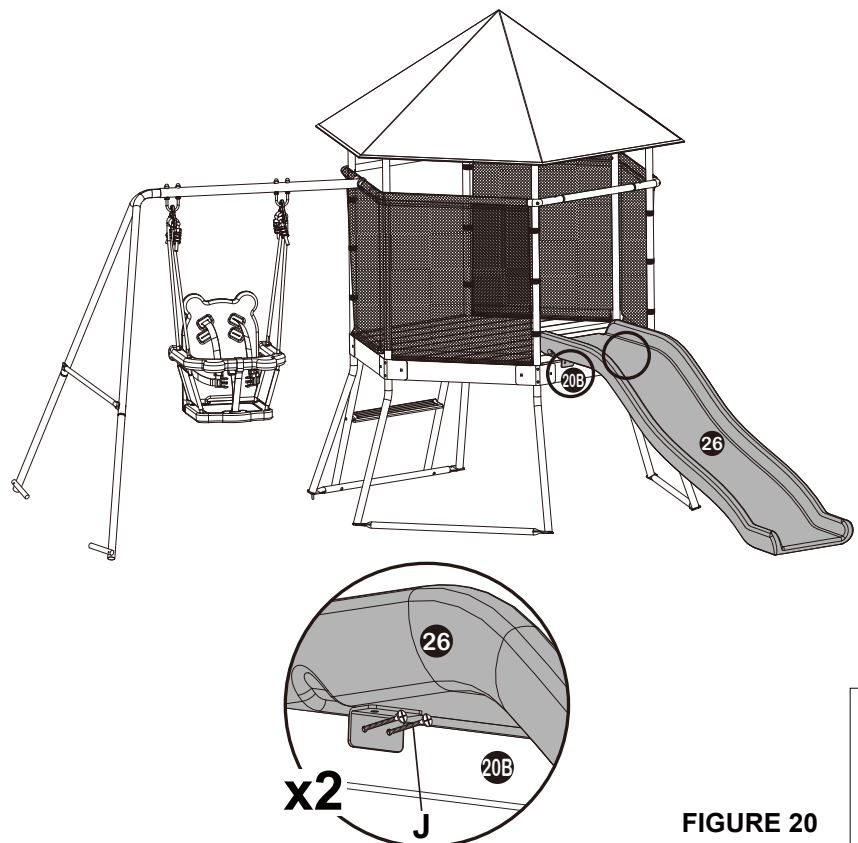

FIGURE 20
- Attach Slide (26) to Connection Wood (20B) as shown in Figure 20